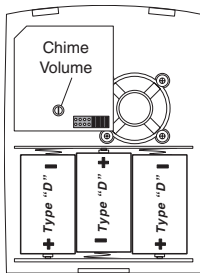

Figure 3
3. **Install 3 alkaline "D" batteries.** Make sure batteries are oriented properly (see Figure 3).
5. **Adjust volume control.** Adjust volume control to desired volume (see Figure 3).